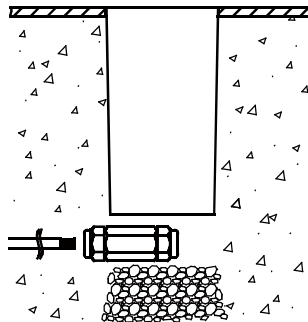

Fig 2.2
2.2 Connect the 12/24V supply cable via waterproof junction box or connector. (See Fig 2.2)